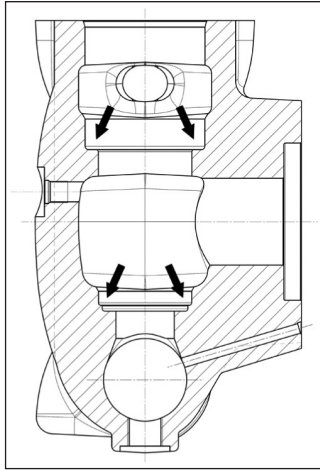

Fig. 88
Before repositioning the valve units, thoroughly clean and dry the relative housings on the head indicated by the arrows (pos. ①, Fig. 88).